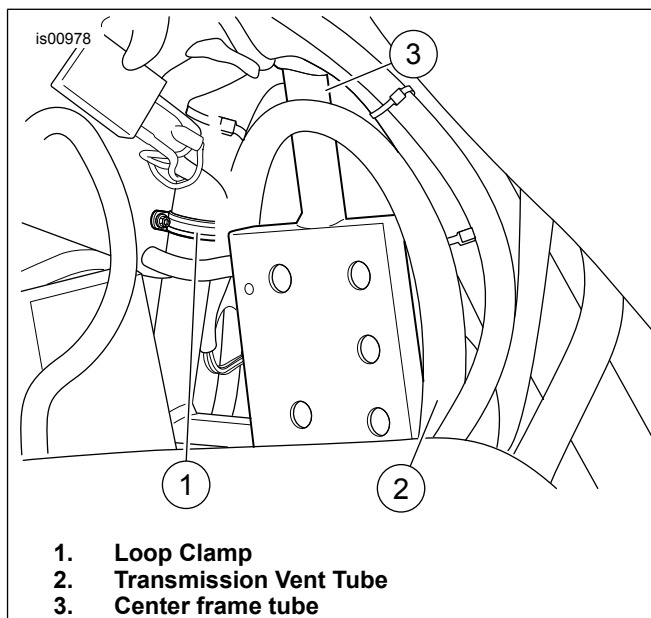

Figure 3. Transmission Vent Line Routing
10. See Figures 3 and 4. Reposition loop clamp (1) and hardware to new/other hole.
9. See Figure 3. Route transmission vent tube (2) over battery to the right of center frame tube (3) and behind battery tray.